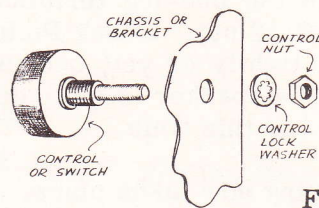

Figure 7
- () Mount the volume control W in hole Z, placing the 3/8 lockwasher under the nut as shown in Figure 7. The three lugs should face down toward the hole Y in the chassis.